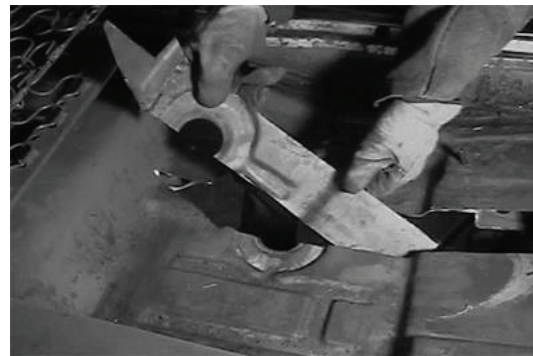

Figure 7
11. Once the cut lines are carefully marked, the sheet metal can be removed. Start by cutting on the inside of your marks. You can always trim more away as you begin fitting the subframe connector in the car. Cut the floor up to the front side of the rear front seat bracket. Further trimming of the floor pan toward the front of the car may be required to properly fit the top of the subframe connector flush to the top of the subframe (Figure 7). **NOTE:** The forward inboard flange of the rear frame rail may be separated from the floor pan. We recommend hammering this flange tight to the body and plug welding it to the floor pan.